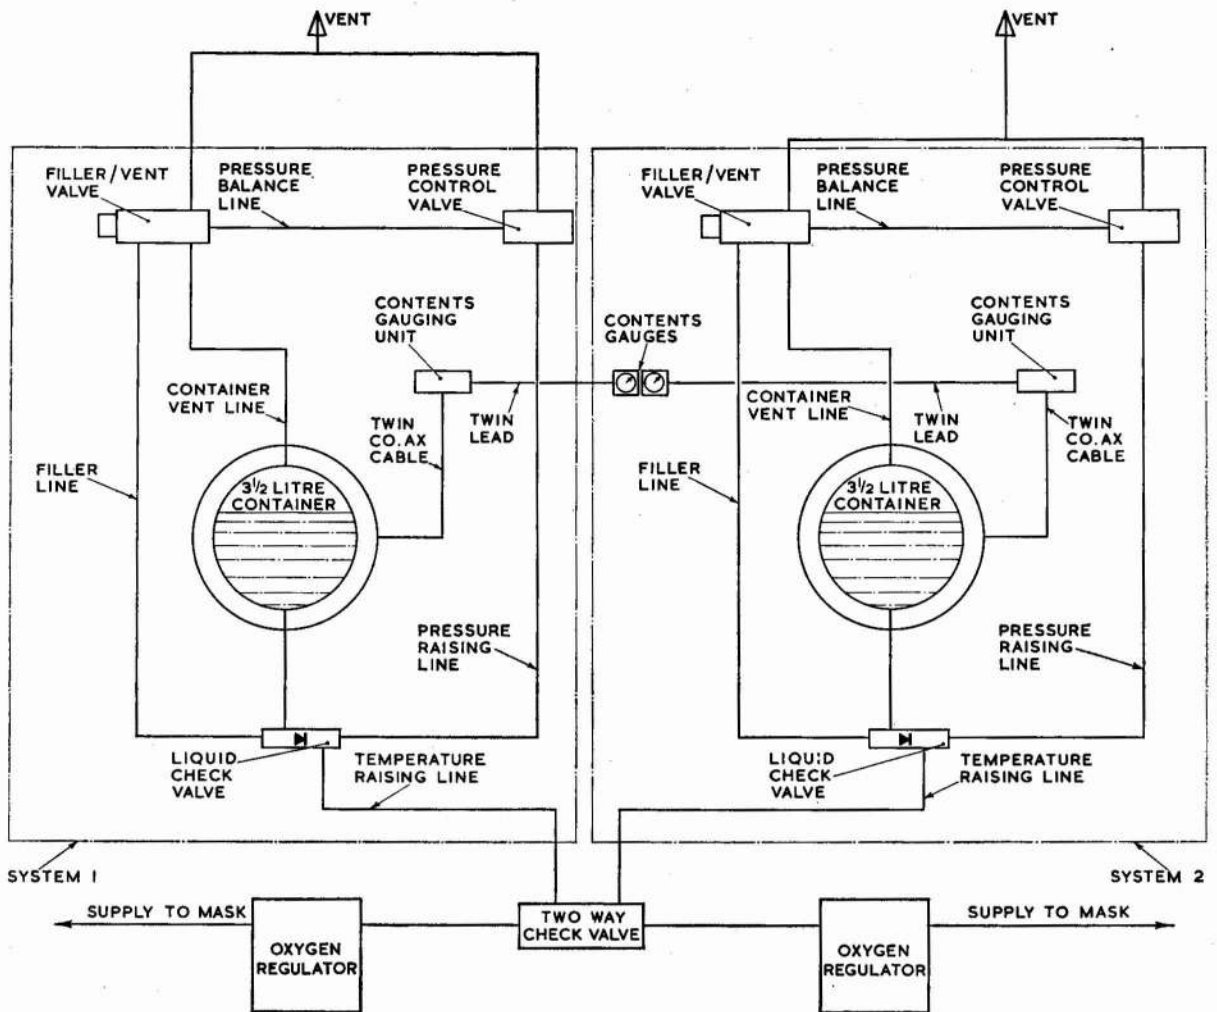

Fig. 3. Layout of two 3 1/2 litre systems (schematic)
1. The liquid oxygen package unit, Ref. No. 6D/3015 consists of a 3½ litre capacity liquid oxygen system provided as an interchangeable unit. Although this equipment is basically similar to earlier type liquid oxygen package units, it differs in that it is easily removed from the aircraft for the purpose of replenishing the liquid oxygen supply. Earlier versions of this equipment consisted of two 3½ litre systems coupled together as one assembly. With this version two separate 3½ litre systems are provided, but coupled together with a remote two-way check valve (fig. 3). The method used for the quick removal and replacement of this unit is mainly an R.N. requirement to reduce evaporation losses experienced with the present system of charging in-situ from liquid oxygen replenishing trolleys.
6. The liquid oxygen check valve is used in aircraft liquid oxygen systems to limit the delivery of liquid oxygen from an oxygen container to an aircraft oxygen breathing circuit. A series of check valves are available for liquid oxygen systems, which are similar in application and internal construction, but differ externally to enable external circuits to be used to suit particular aircraft installations. In this instance the two systems are coupled together (fig. 3) by a two-way check valve, Ref. No. 6D/2672 which is located external to the package unit. Details of liquid oxygen check valves are given in Sect. 1, Chap. 3.